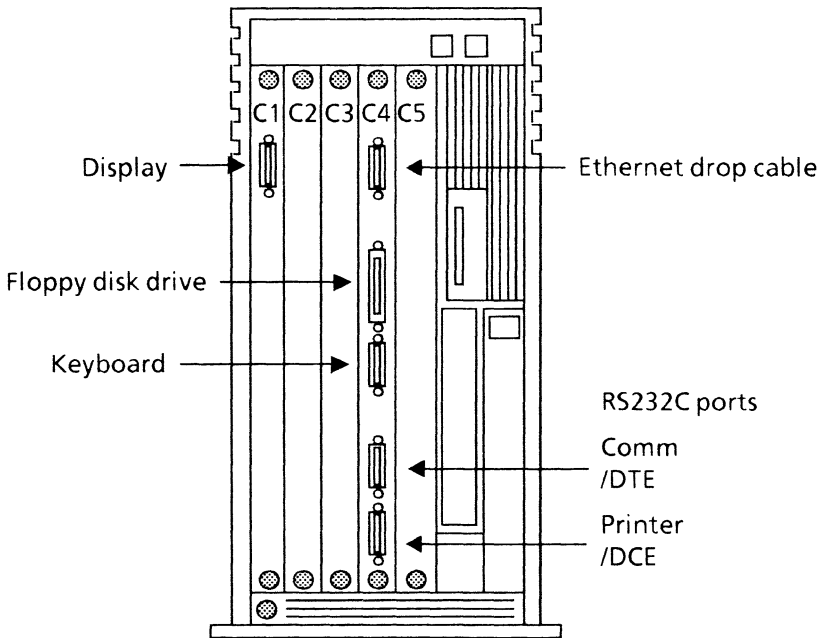

Figure 4-1 6085 processor (rear view)
1. Connect (with slotted screws) one end of the RS232C Xerox-supplied cable (the end with the pins visible) to the port named Printer/DCE on the back of the 6085 processor (refer to Figure 4-1). **Xerox-supplied cables must be used.** To ensure proper connection to the workstation, gently tighten the screws.